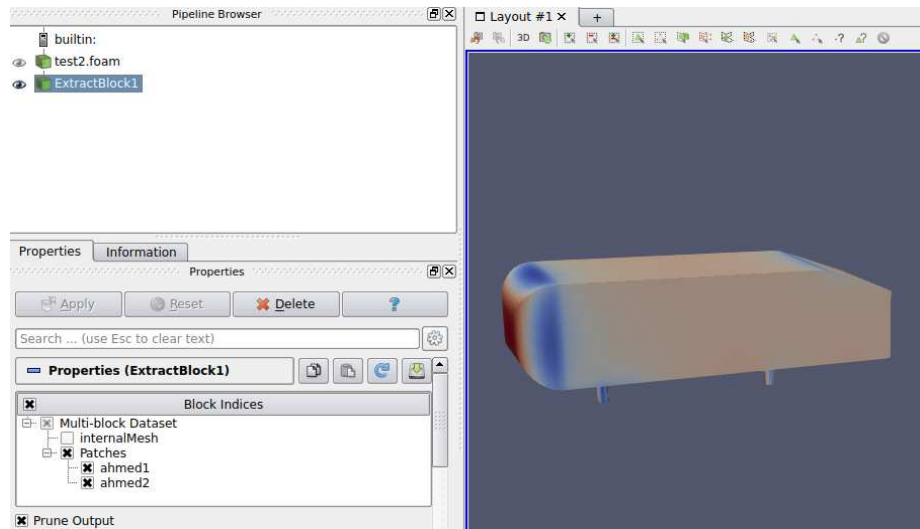

Figure 2.1: Extract block.
- 4) Select 'Extract Block' from the 'Filter>Alphabetical' menu, select 'ahmed1' and 'ahmed2' in 'Block Indices' and click 'Apply' (figure 2.1).